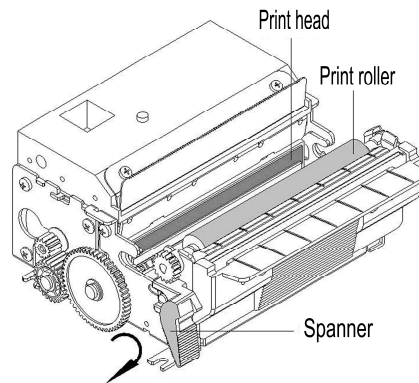

Figure 5.1.1 Cleaning the print head and platen roller
- 1) Turn off the printer power, turn the open spanner and pull out the platen roller (Refer to figure 5.1.1.);